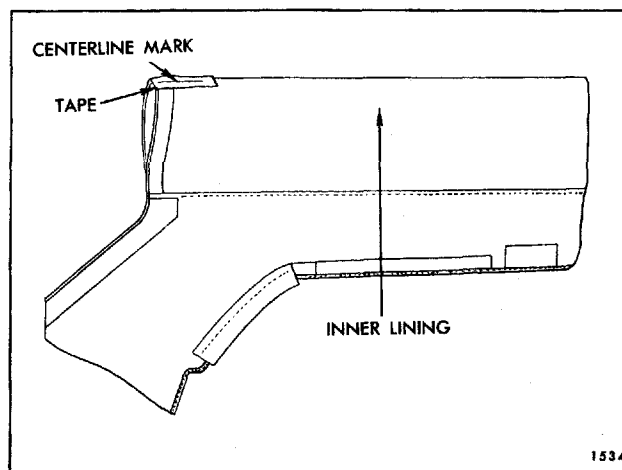

Fig. 6-39—Marking Folding Top Material
4. Fold new top material in half so that inner lining of top material is exposed (Fig. 6-39). Install a 6" piece of tape on inner surface at centerline fold of new top material (Fig. 6-39). Using a pencil, mark the approximate centerline of new top material along entire length of tape.